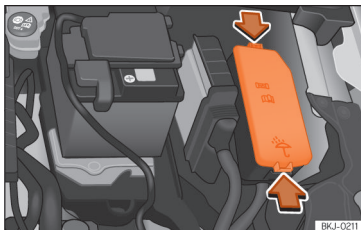

Fig. 169 In the engine compartment: lid of the fuse box.
- Press the locking tabs to unlock the fuse box cover >>> **Fig. 169**.